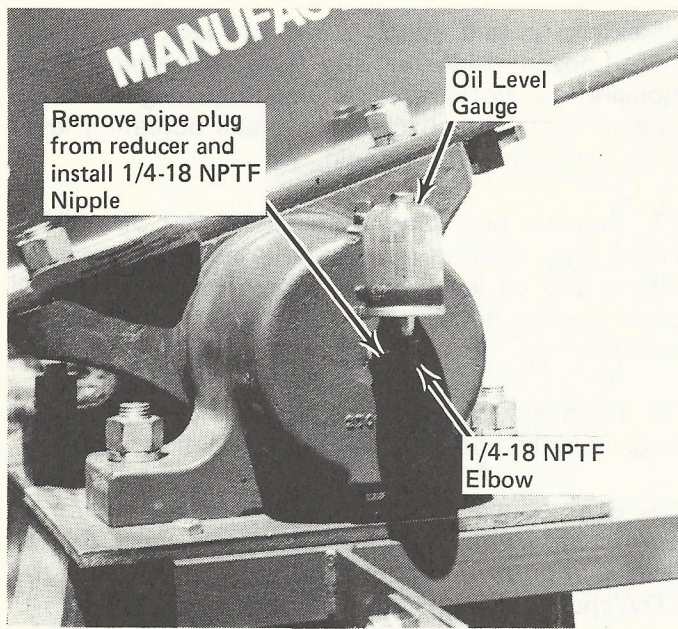

Figure 23
27. Remove pipe plug from either end of walking beam pivot bearing housing and install pipe nipple, elbow and oil level gauge shown in figure 23. Fill pivot bearing housing with lubricant per Lubrication section.